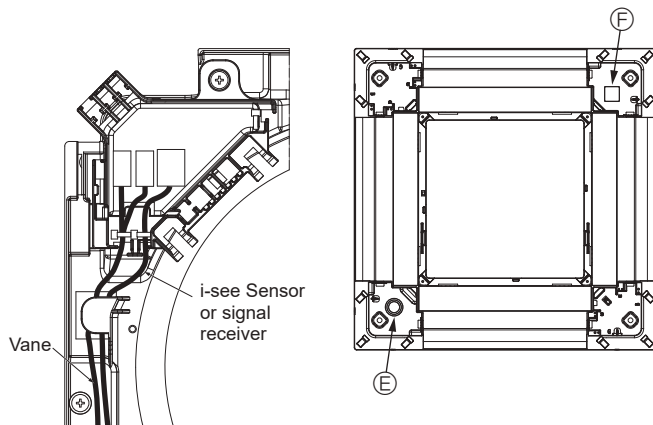

Fig. 5-14
- Route the i-see Sensor and signal receiver wires as shown in Fig. 5-14.